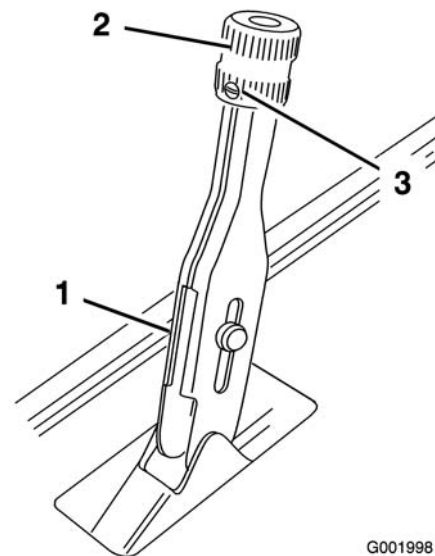

Figure 59
1. Loosen the set screw securing the knob to the parking brake lever (Figure 59).